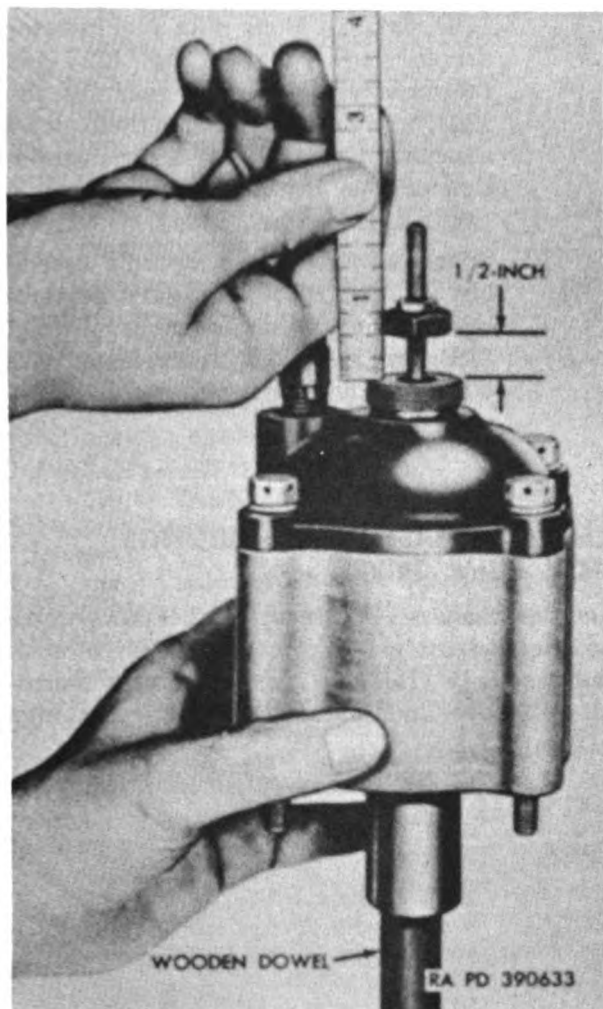

Figure 129. Adjusting length of fuel injector oil booster pump stroke.
- (6) Position large piston (M) over threaded portion of shaft and into housing and secure with $\frac{1}{4}$ -inch hex nut ($\frac{7}{32}$ thick) (N) and $\frac{1}{4}$ -inch hex nut ($\frac{1}{8}$ thick) (P).
- (7) Coat threads on $\frac{1}{4}$ -inch 90 degree elbow (X) with gasket forming compound and install elbow in cover (Q). Position a new cover gasket (G) and cover on housing. Install four $\frac{5}{16}$ x $3\frac{3}{4}$ hex-head bolts (T) and $2\frac{1}{4}$ id, $\frac{7}{16}$ od, 0.0630 thick flat washers (S) through cover and into body to hold cover in place.
- (8) Install $\frac{1}{4}$ -inch hex jam nut (W) and $\frac{1}{4}$ -inch hex nut ($\frac{1}{8}$ thick) (V) on shaft. Adjust length of pump stroke as described in (a) through (d) below.
- (a) Insert wooden dowel into extension on housing behind small piston as shown in figure 129.
- (c) Screw $\frac{1}{4}$ -inch hex jam nut (W) down on shaft to a distance of $\frac{1}{2}$ inch, measured between face of nut and face of cover.
- (d) Lock jam nut in position by tightening $\frac{1}{4}$ -inch hex nut ($\frac{1}{8}$ thick) (V) against jam nut. Remove pump slowly from dowel.
- (9) Position a new cap gasket (R) on cover and install cap (U) over gasket.